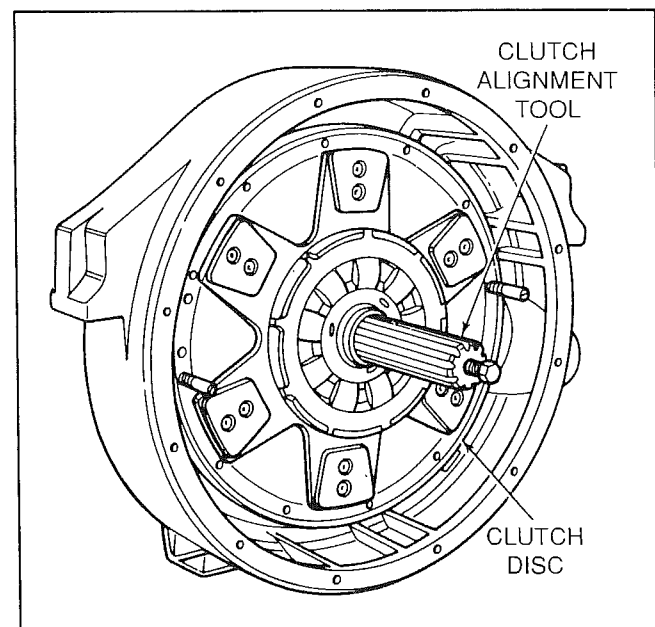

Figure 10-6. Clutch Disc Installed
16. The flatter side of the clutch disc goes toward the flywheel. With the disc correctly oriented, insert the clutch disc alignment tool through the splines on the disc. Next, insert the pilot arbor of the alignment tool into the flywheel pilot bearing and slide the clutch disc against the flywheel (Fig. 10-6).